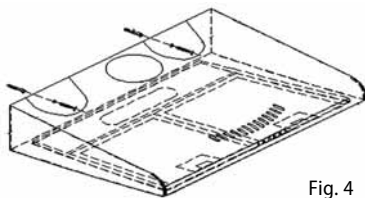

Fig. 4
7. Fix the appliance to the wall using the supplied wall plugs and screws (Fig. 4).